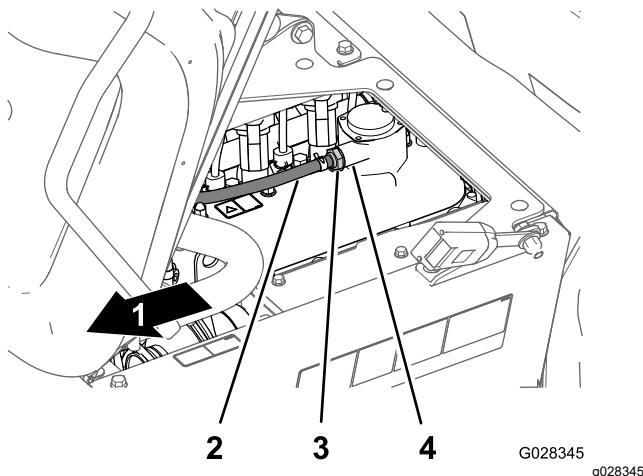

Figure 113
2. Remove the PCV valve from the fitting of the valve cover (Figure 113).
**Note:** If the internal restrictor of the valve rattles, the PCV valve is serviceable; if the internal restrictor is not free to rattle when shaken, replace the PCV valve (Figure 113).
4. Insert the PCV valve until it is fully seated in the seal for the valve-cover fitting (Figure 113).